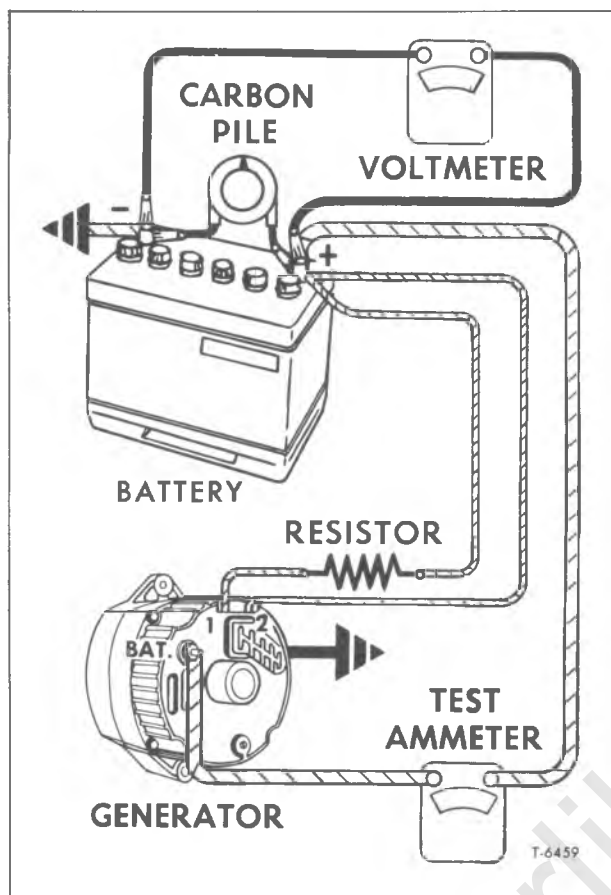

Figure 6—Connections for Testing Generator Output (42- and 61-Amp. Integral Type Generator)
1. Make connections as shown in figure 6, except leave the carbon pile disconnected. Use a fully charged battery and a 10 ohm resistor rated
4. Connect the carbon pile as shown in figure 6.